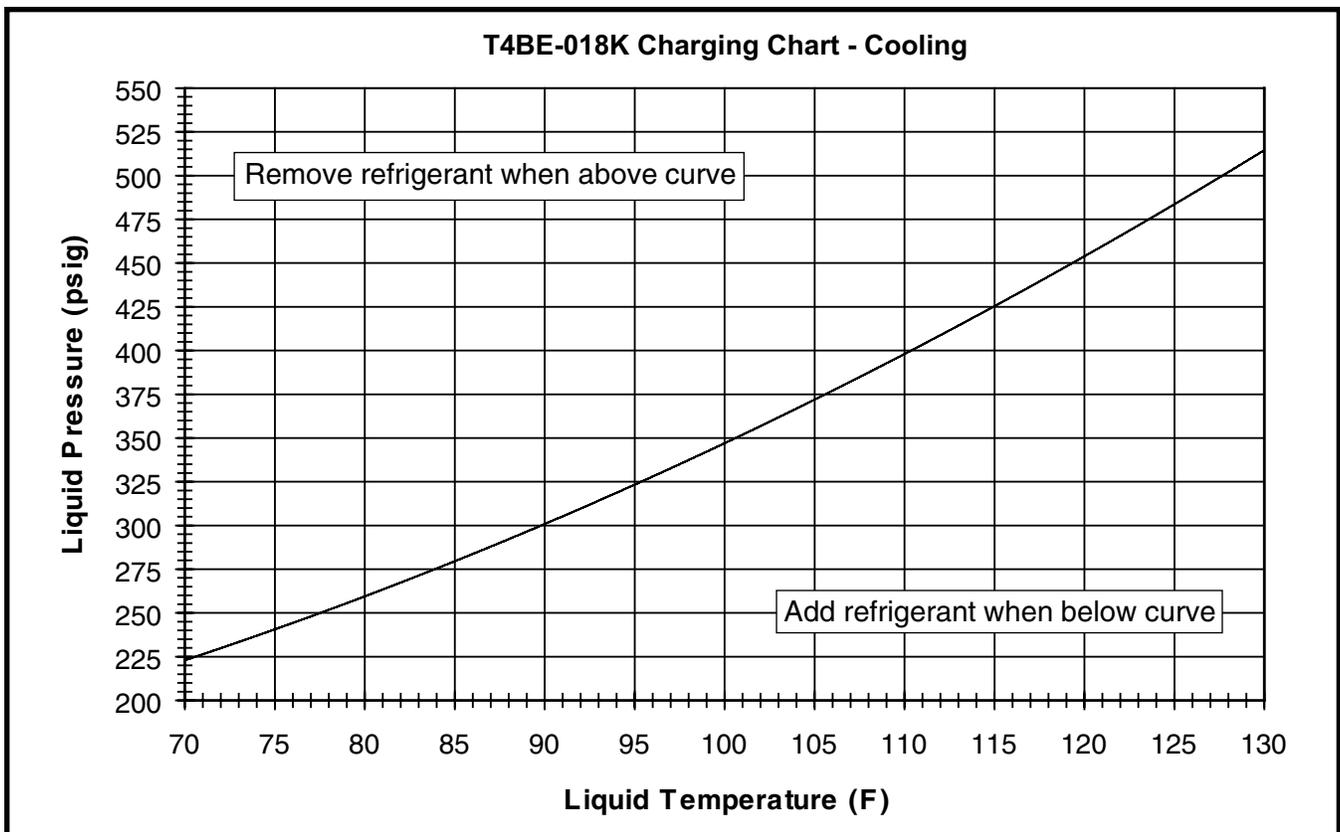

Figure 6. Charging Chart for T4BE-018 Series (1.5 Ton Units) - TXV Matches
- Cooling mode charging charts are applicable only to matched assemblies and listed airflows for the indoor coil. T4BE outdoor units with non-AHRI listed indoor coils are not recommended and deviations from rated airflows or non-listed combinations may require modification to the expansion device and refrigerant charging procedures for proper and efficient system operation. Refer to Figures 6 - 12 (pages 11 - 14) and Tables 4 - 9 (pages 16 & 17) for correct system charging.
3. Determine the required liquid refrigerant pressure from Figures 6 - 12 (pages 11 - 14).
- Charging charts are valid for a variety of indoor, return air conditions and are most influenced by the outdoor ambient temperature, outdoor fan operation and the unit operating voltage. Before using these charts, make sure the unit is in a stable operating mode. As shown in the charging charts (Figures 6 - 12, pages 11 - 14), the ideal system sub-cooling can vary over the range of operation. Reference the charts to determine the ideal amount of sub-cooling for a given liquid pressure. Units charged to other values will not perform at the rated unit efficiency (EER) or rated Coefficient of Performance (COP) in heating mode.